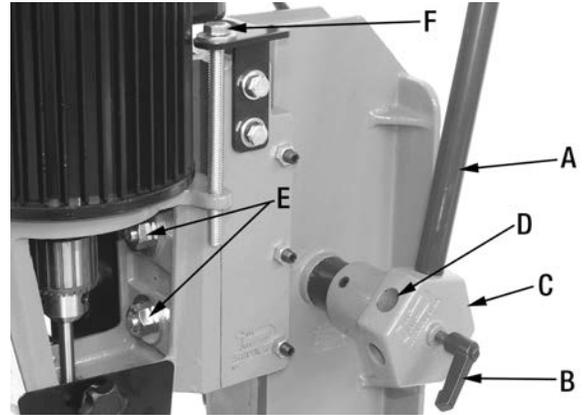

FIGURE 10
A downfeed handle (A) Fig.10 on the right side of the head is provided to raise and lower the head. This handle may be repositioned for maximum leverage and comfort during operation. To do this, loosen lock handle (B), remove downfeed handle from hub (C) and reposition in an alternate mounting hole (D) in the hub, retighten lock handle (B) and continue with your operation.